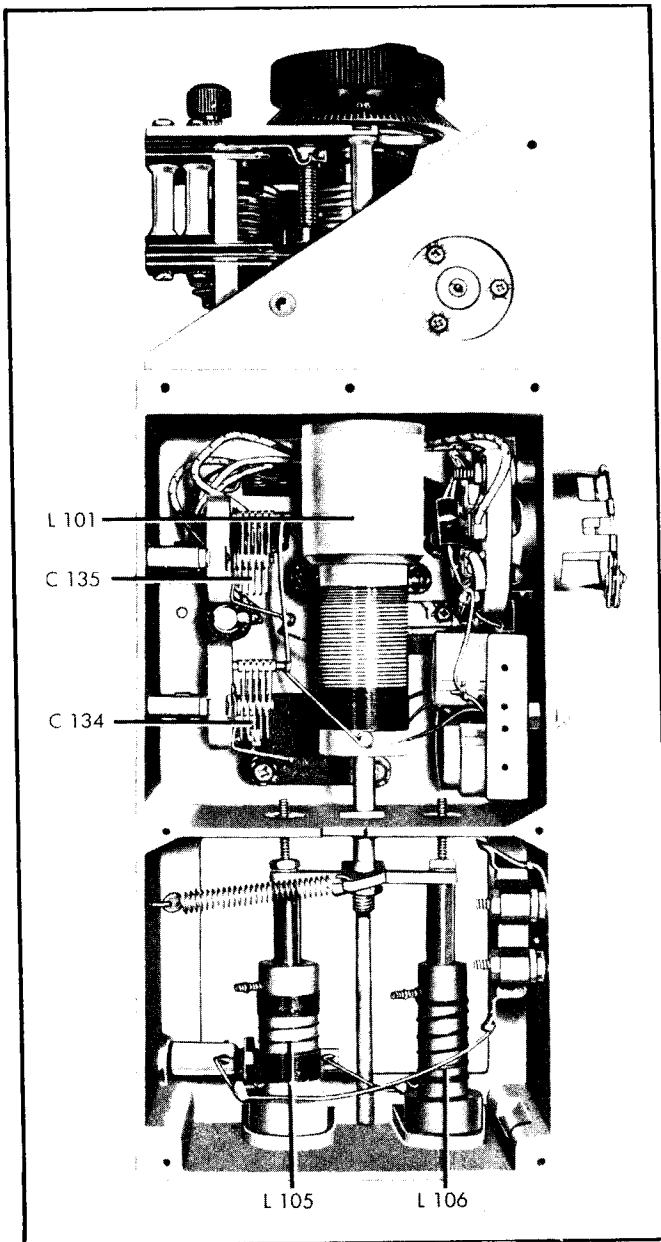

Figure 5-8. High Frequency Oscillator
(o) Adjust trimming capacitor C134 (fig. 5-8) until zero beat is obtained between the output of the H-F oscillator and the output of the calibration oscillator.
(s) While listening to the SIDETONE output adjust trimming capacitor C135 (fig. 5-8) until zero beat between the high-frequency oscillator output and the calibration oscillator output is obtained.
(4) When the autotune cycle has been completed, operate Control "A" to position 2.
(5) Set the indicator mark over Control "B" to midscale, using the CORRECTOR knob.
(6) Refer to table 6-10 and obtain the dial setting for an output frequency of 2400 Kc with Control "A" in position 2. (Oscillator output on 1200 Kc.)
(7) Rotate Control "B" to the setting obtained from the table.
(8) Loosen the nut on the rear of the lead screw that holds the multiplier tuning slug yoke to the screw.
(9) Operate power level switch S106 to the CALIBRATE position.
(10) Measure the output frequency of the oscillator and adjust the position of the tuning slug in L101 until the oscillator is exactly 1200 Kc.
(11) When the correct position of the tuning slug has been found, tighten the locking nut to prevent any further displacement of the slug.
(12) Refer to table 6-10 and obtain the setting of Control "B" necessary to obtain an output frequency of 3000 Kc with Control "A" in position 2. (Oscillator output on 1500 Kc.)
(13) Rotate Control "B" to the setting obtained from the table.
(14) Measure the output frequency of the oscillator and adjust capacitor trimmer C134 (fig. 5-8) until the frequency of the oscillator output is exactly 1500 Kc.
(16) Check several points within the band by obtaining dial settings from the calibration tables, rotat-
(16) If the dial setting of Control "B" necessary to obtain output on a selected frequency, deviates more than 4 or 5 dial divisions from the dial setting given in the calibration tables, repeat steps (6) through (15) until the actual dial setting of Control "B" necessary to obtain a given output frequency, corresponds very closely to the setting given in the table.
(17) When alignment has been completed with Control "A" in position 2, operate the control to position 1.
(18) Refer to table 6-10 and obtain the dial setting of Control "B" to obtain an output frequency of 2000 Kc with Control "A" in position 1. (Oscillator output on 1000 Kc.)
(19) Adjust trimming capacitor C135 (fig. 5-8) until the oscillator output frequency is exactly 1000 Kc.